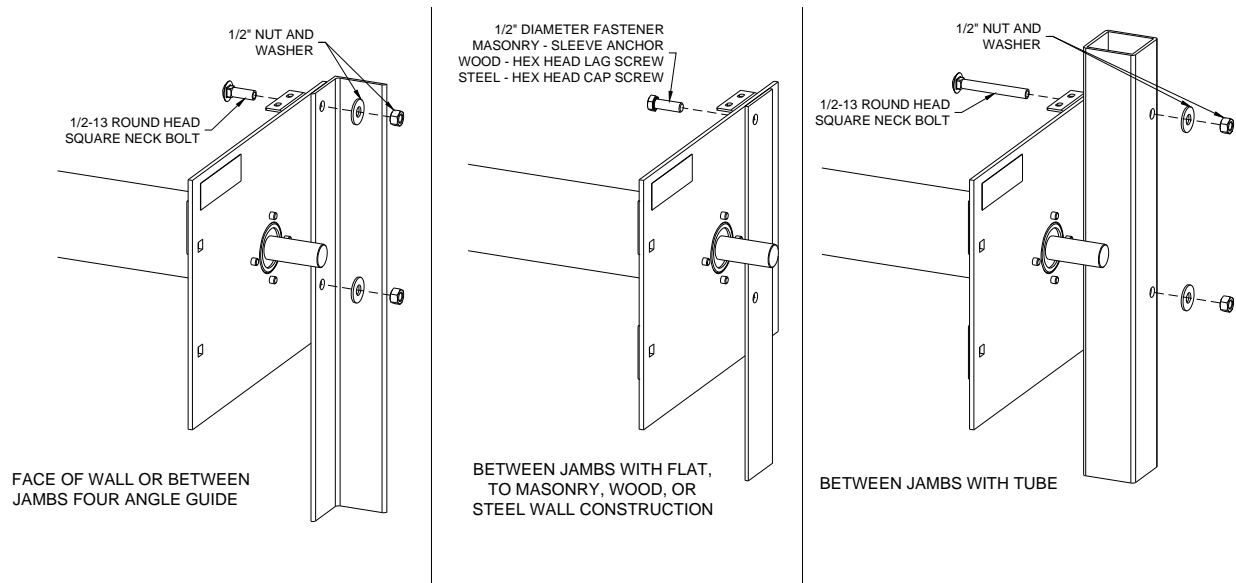

Figure 6.4 – Bracket Mounting Configurations and Hardware
6. Insert the specified bolts and snug tighten, see **Figure 6.4**.